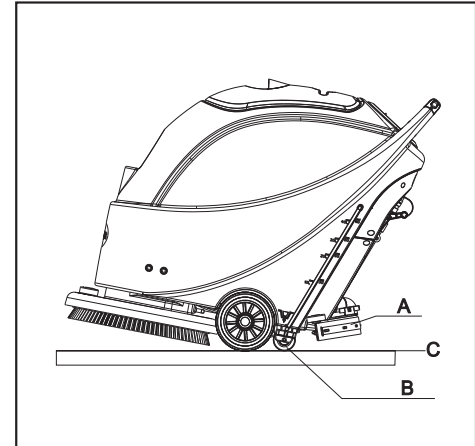

FIGURE 7
8. Release the safety switch (1) to turn off the brush/pad holder and solenoid valve.
9. Press the Vacuum switch (39) to the "Off" position, and the Vacuum will delay for 5 seconds before stopping work.
10. Press the solution control switch (40) to the "Off" position to completely turn off the solution flow.
11. Press the power switch (38) to the "Off" position. And disconnecting the power cable (9) from the power supply.
12. Use the squeegee lift handle (14) to lift the squeegee.
13. Grasp the handle (2) and gently tilt the machine backward until the guide wheel (B) touches the floor. See Figure 7.